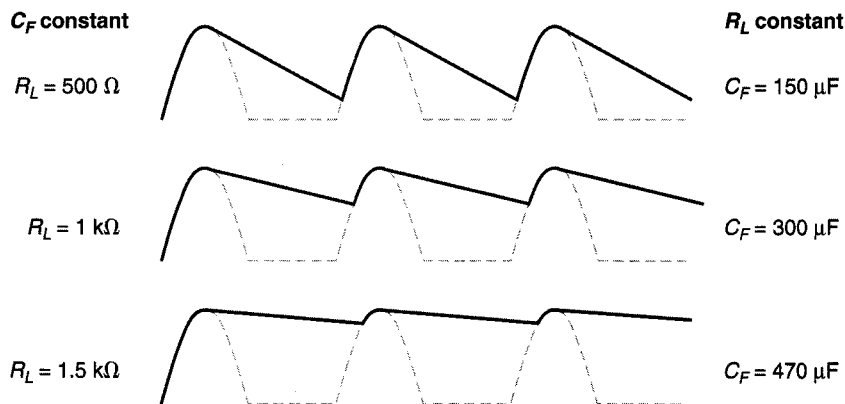

FIGURE 3.33
*The amplitude of the ripple voltage at the output of a filter varies inversely with the values of filter capacitance and load resistance*, as illustrated in Figure 3.33. The values to the left of the waveforms indicate what happens to ripple voltage when  $C_F$  is constant and  $R_L$  increases. The values to the right indicate what happens when  $R_L$  is constant and  $C_F$  increases. In either case, the amplitude of the filter output ripple decreases.
As equation (3.29) shows, the time required for a capacitor to charge to a specified value is directly proportional to the value of the capacitor. Thus, a lower-value capacitor charges faster, reducing the duration of the surge. At the same time, lower-value capacitors produce more ripple voltage (as was shown in Figure 3.33).